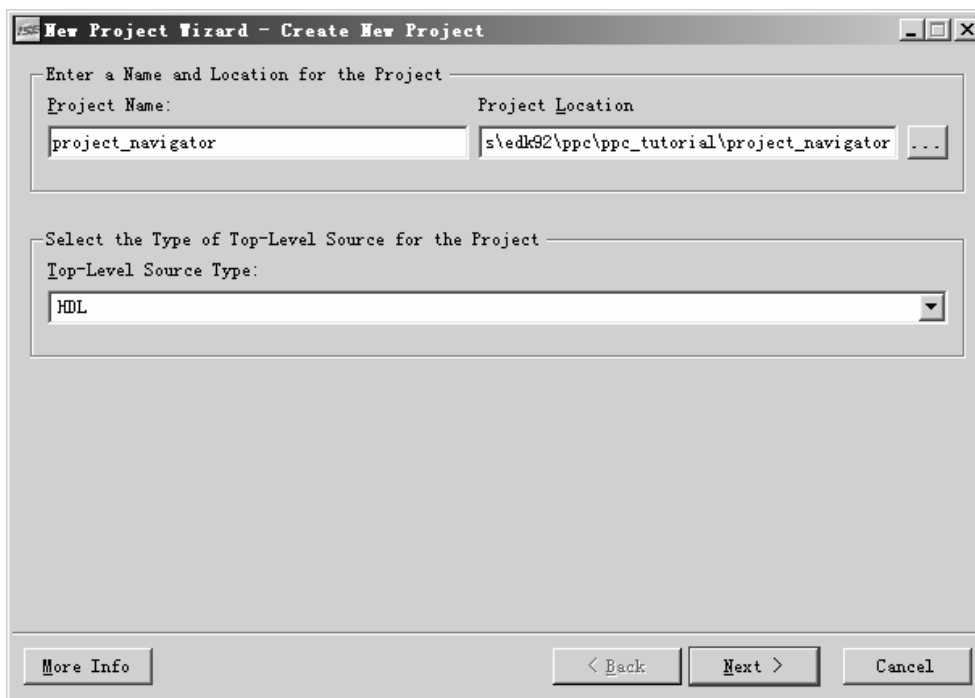

Figure 22: ISE New Project
- In the New Project dialog box shown in Figure 22, browse to the XPS project directory and then enter the Project Name, project_navigator.